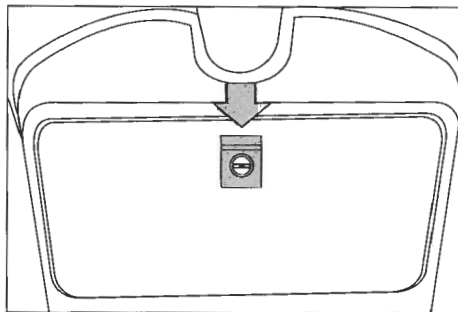

Fig. 17
**Glove compartment lock:** To open the glove compartment, insert the key into the lock, turn it completely counterclockwise, and then press it downwards (fig. 17).